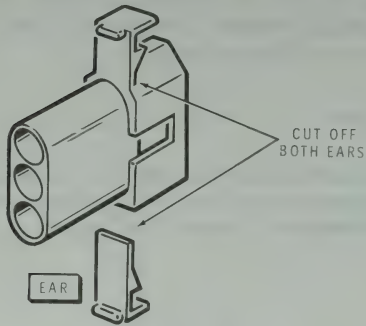

Figure 2-6
- () Refer to Figure 2-6 and cut off and discard the two "ears" from a female connector housing.